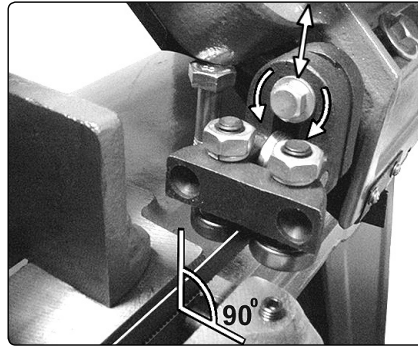

fig.24
- 7.5.1. Disconnect the machine from the power supply. (Figure 24 shows the blade guard (69) removed for clarity. It is not necessary to remove the blade guard to make the following adjustments).
- 7.5.2. To adjust the blade guide loosen the bolt indicated in fig.24. and allow the single bearing which runs on the back of the blade to rest on the blade without exerting any pressure.
- 7.5.3. Rotate the blade guide (as shown in fig.24) until blade is perpendicular to machine bed.